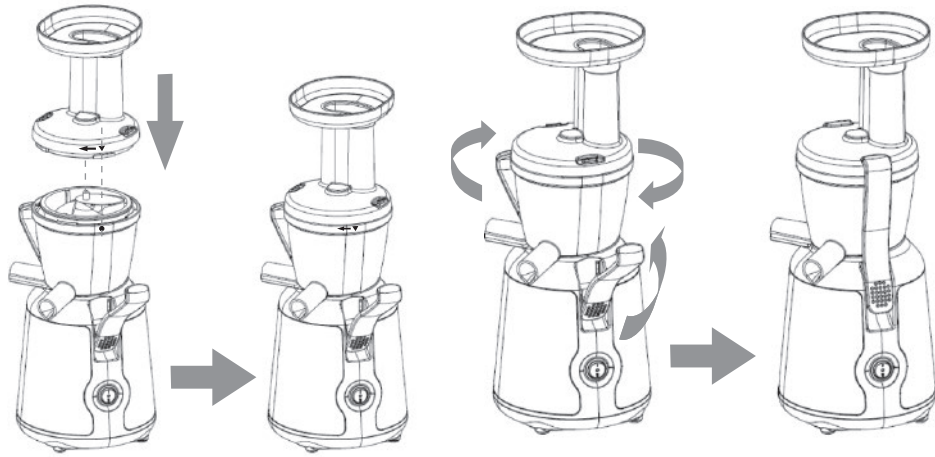

Figure 4
4. Place the hopper onto the juicing chamber in such a way that the "▼" symbol on the hopper aligns with the dot on the container, then twist the hopper clockwise following the "←" arrow until it is fully locked in. Lock the hopper in using the fastening clips on the right- and left-hand sides. See figure 4.